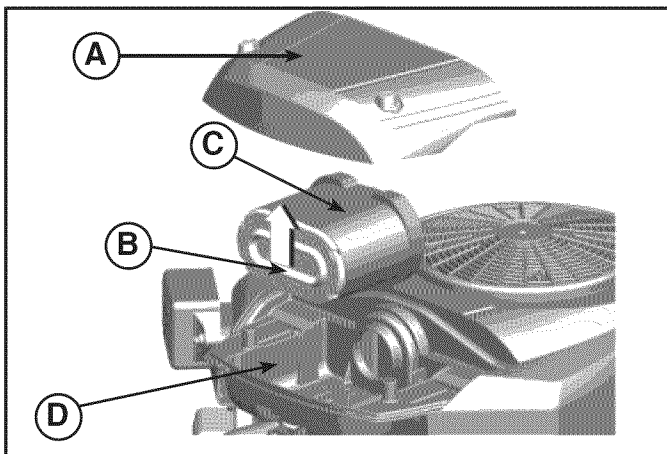

FIGURE 10
1. Remove the cover (A, Figure 10).
2. To remove the filter (B), lift the end of the filter.
3. Remove the pre-cleaner (C) from the filter.
6. Assemble the dry pre-cleaner and the filter into the engine base (D).